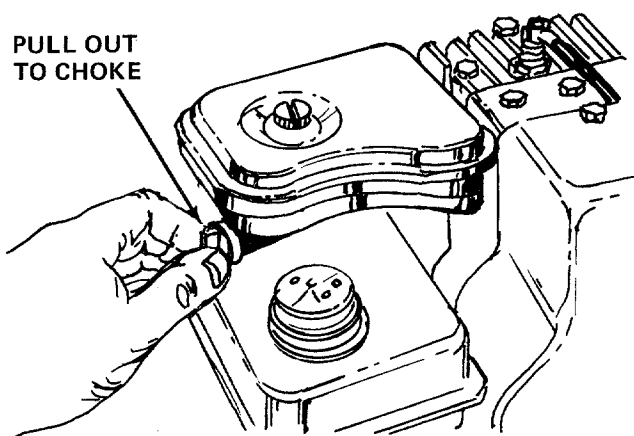

FIGURE 10
3. Pull the choke control out to CHOKE position if necessary. See figure 10.